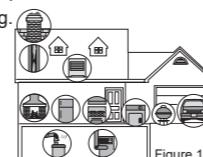

Figure 14
2) Spaces where CO is easily present (refer to Figure 14), fuel burning appliances like portable heating appliances, gas or wood burning fireplaces, gas stoves, gas dryers.